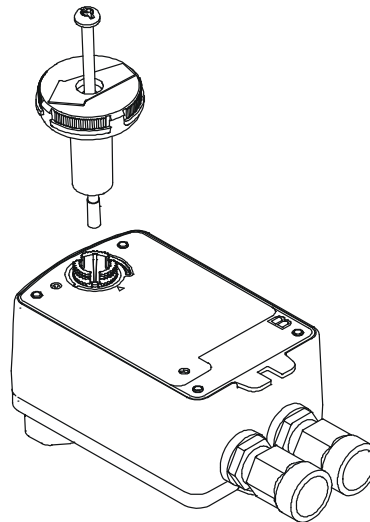

Figure 14: Installing the Fixed Pointer
5. Insert fixed pointer and M4x0.7x83 mm long screw into the Side B actuator hub (Figure 14). Direct the arrow on the pointer to 0%.